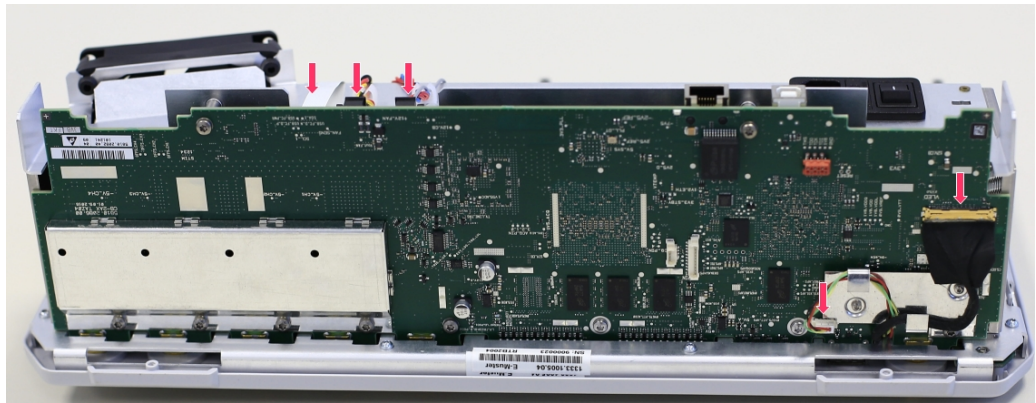

Figure 4-2: Unplugging cables
2. Disconnect all cable connectors from complexboard including power supply connector, fan connector, display connector, touch connector and front board connector. See Figure 4-2.